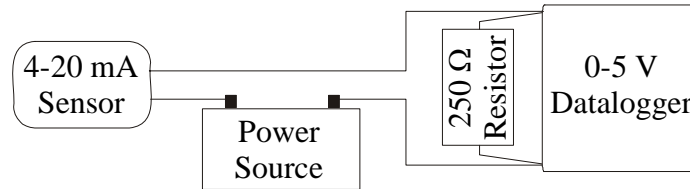

Figure 21. Conversion of a 4 – 20 mA signal to a 1 – 5 V signal.
1 – 5 V potential if wired as shown in Figure 21. From equation (2), $(0.004 \text{ A}) \times (250 \Omega) = (1 \text{ V})$ and $(0.020 \text{ A}) \times (250 \Omega) = (5 \text{ V})$. Similarly, a 4 – 20 mA signal can be converted to a 0.5 – 2.5 V potential with a 125 Ω resistor, or a 100 – 500 mV potential with a 25 Ω resistor. The resistor should be installed at the datalogger so the 0 – 5 V signal does not have to travel far.